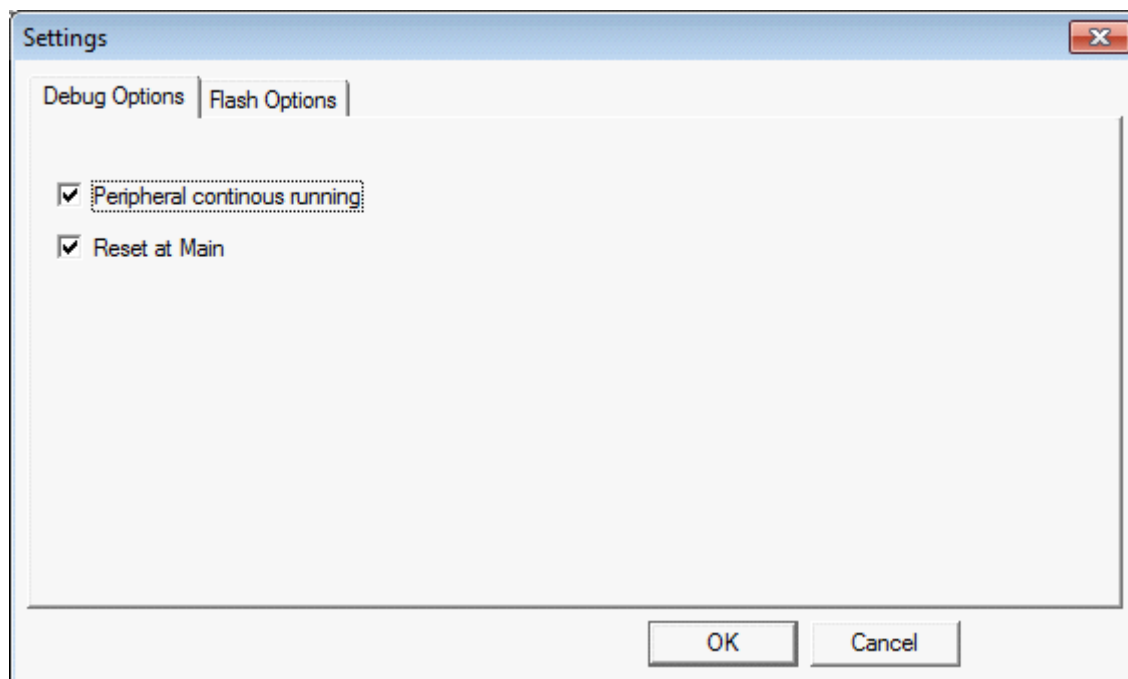

Figure 24. Configuring the Debug Options
7. Click the **Settings** button, located to the right of this drop-down menu, to configure your Debug and Flash options. The Settings dialog is displayed with the Debug Options tab appearing by default, as shown in Figure 24.